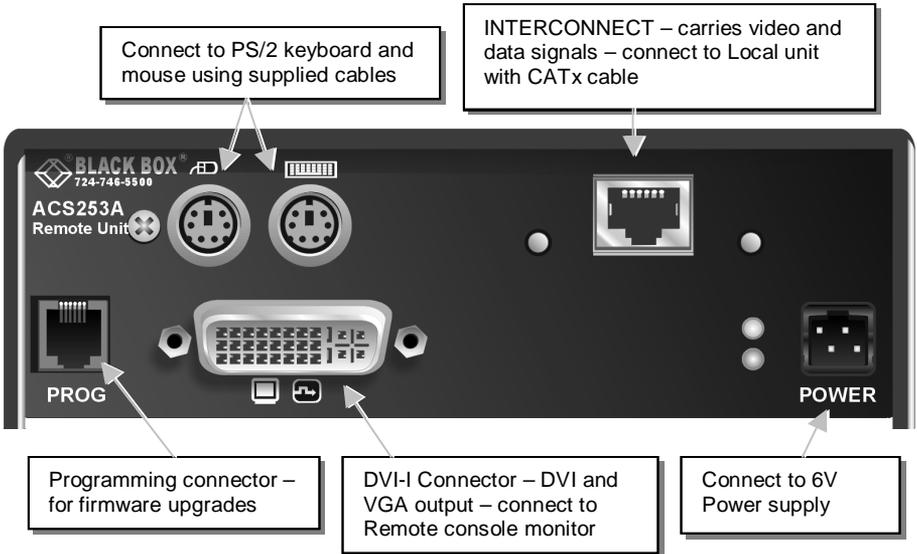
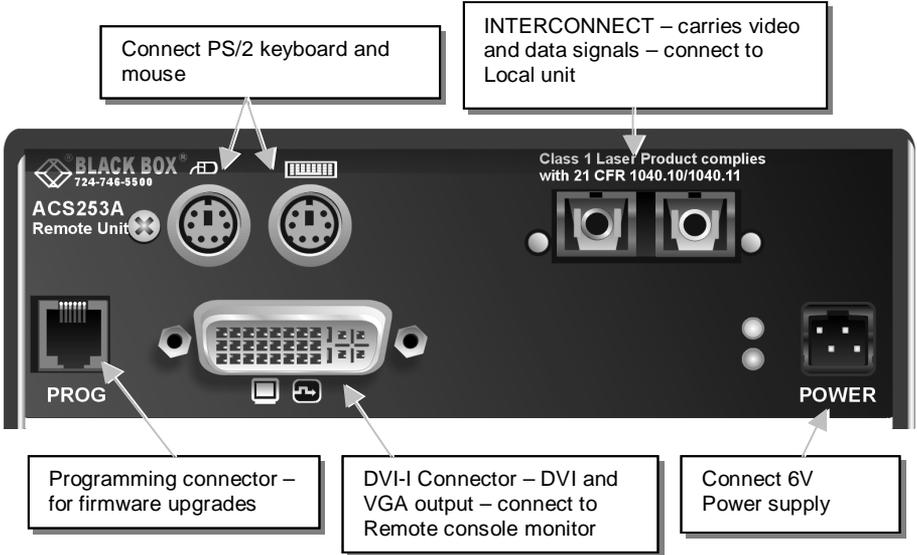
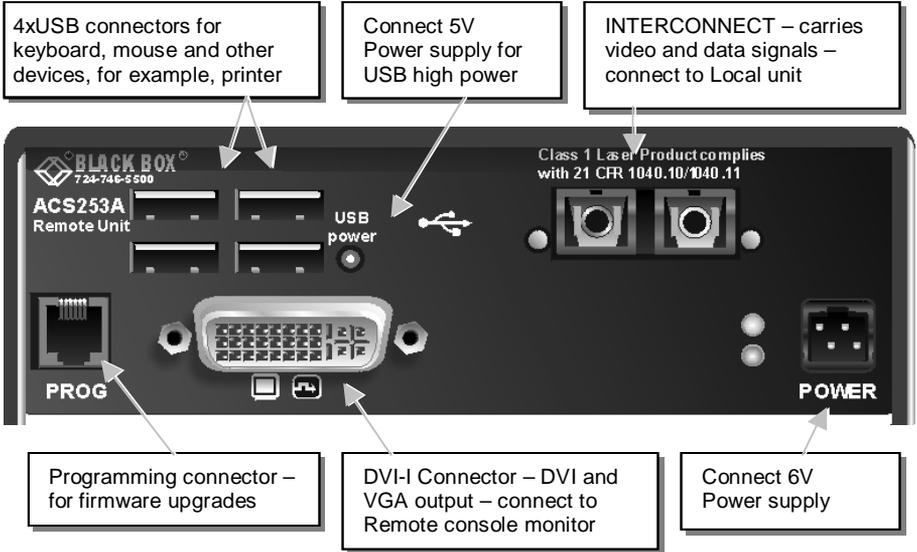

Figure 2 ACS253A-CT Remote Unit
Figure 4 ACS253A-xM Remote Unit
Figure 6 ACS253A-U-xM Remote Unit
2. Connect your keyboard, monitor(s) and mouse to the Remote unit as shown in Figure 2 (ACS253A-CT), Figure 4 (ACS253A-SM/MM) or Figure 6 (ACS253A-U-SM/MM).
3. Connect the interconnect cable to the INTERCONNECT socket(s) as shown in Figure 2 (ACS253A-CT), Figure 4 (ACS253A-SM/MM) or Figure 6 (ACS253A-U-SM/MM).